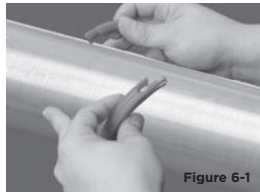

Figure 6-1
2. Pull apart the AIGI 5505 and set it on the shaft (Figure 6-1).